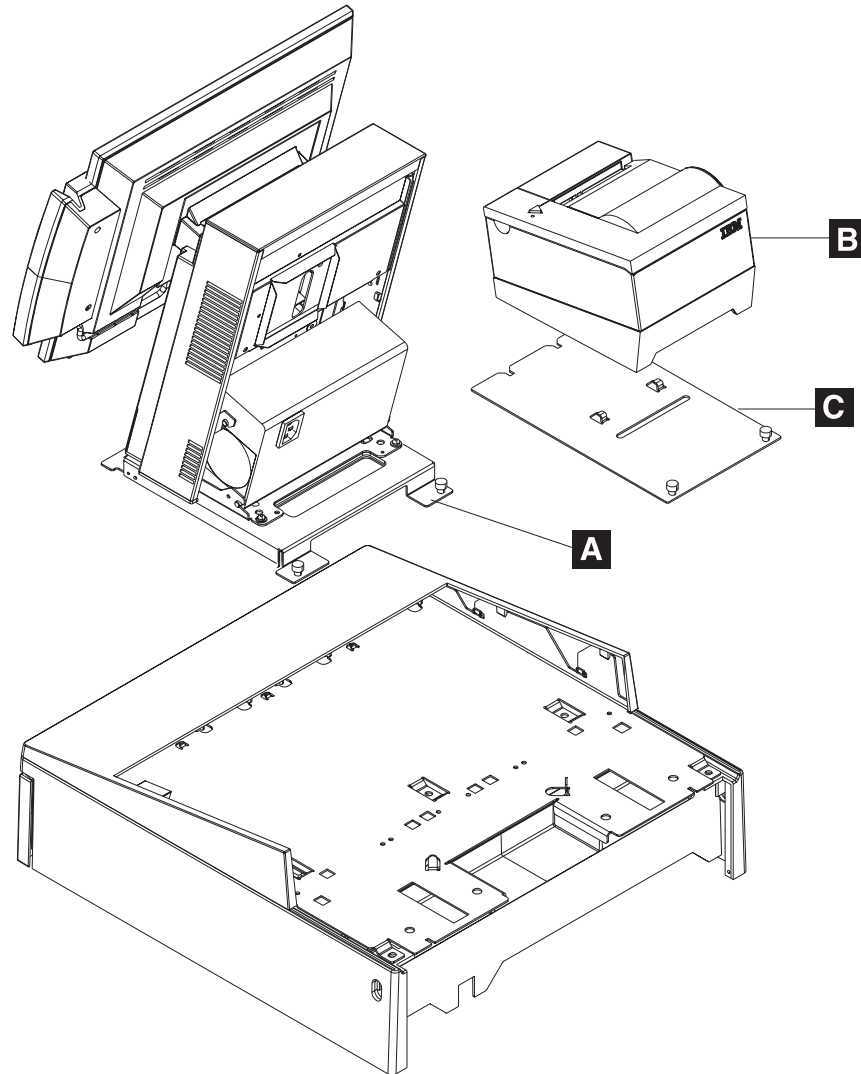

Figure 51. Attaching mounting plate to the cash drawer integration tray
- b. Attach the SurePOS 500 Models 545 and 565 base mounting plate **A** to the right side of the integration tray. Slide the front of the plate under the appropriate pair of tabs on the integration tray. Secure the rear of the plate to the tray with two thumbscrews as shown in Figure 51.